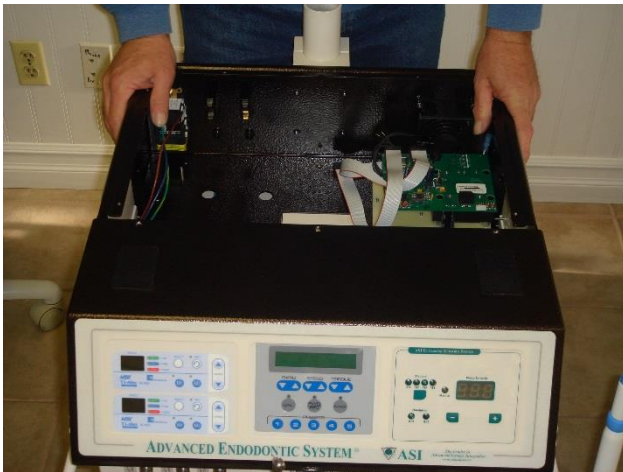
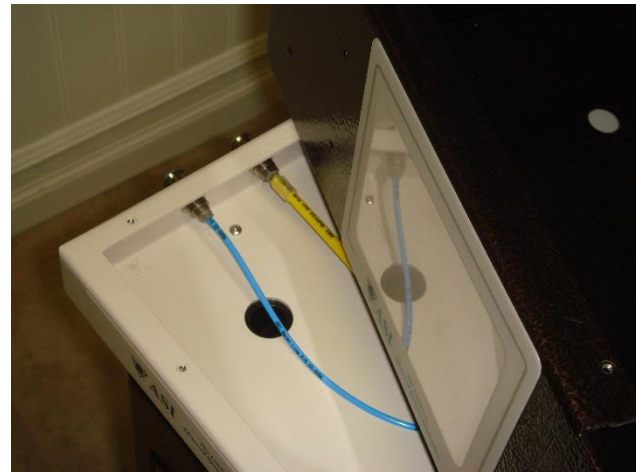

Fig. 10
Fig. 11
18. Standing behind the cart, carefully lift up the delivery system head and turn slightly to the left, exposing the quick connect. (Fig. 10, Fig. 11)